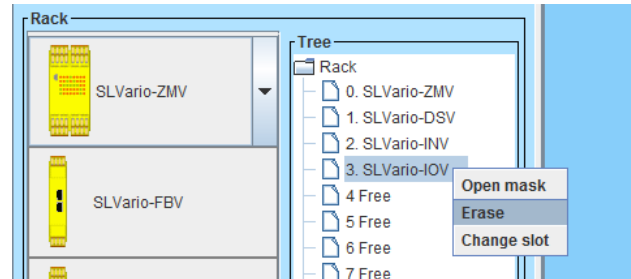

Fig. 2-6
- To delete the module, press the "DELETE" key on the PC or right-click and select the "Delete" function. (Fig.2-6)